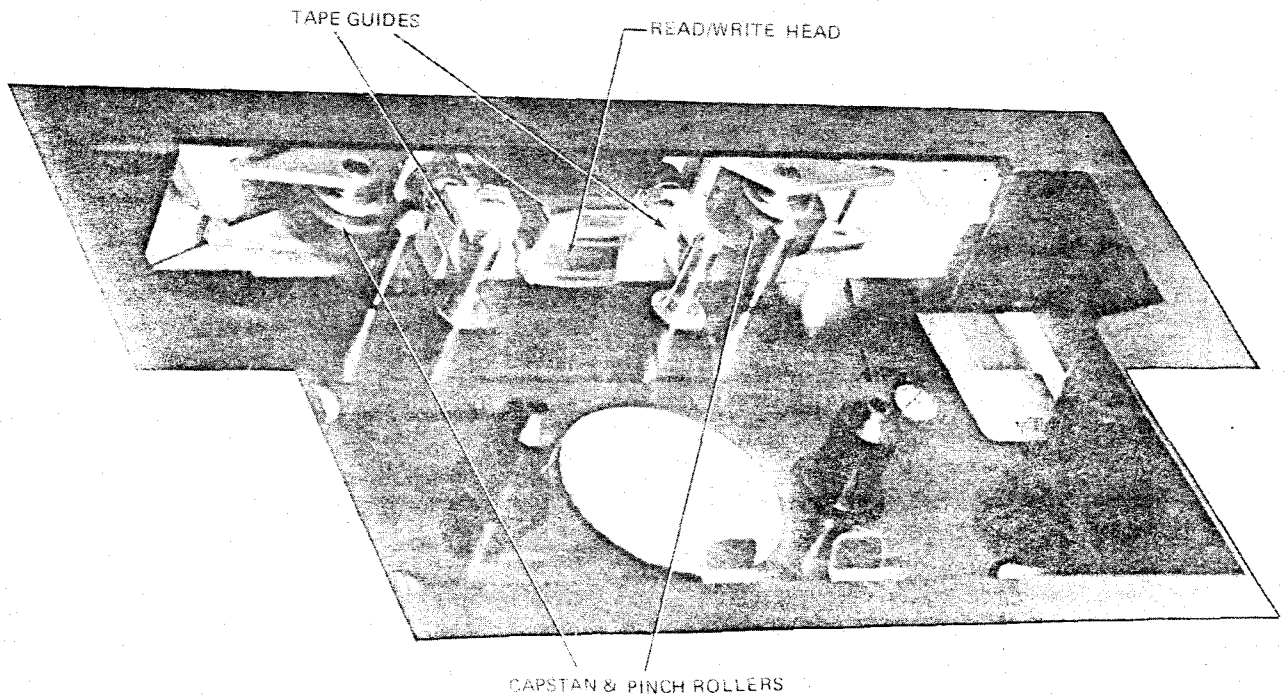

FIGURE 5-1.2. TAPE CASSETTE TRANSPORT CLEANING AREAS
- c. Use clean Q-tip® type cotton swabs saturated with denatured alcohol (available from Texas Instruments in pint containers, Part No. 230007) to clean the pinch rollers, capstans, tape guides, and read/write heads shown in Figure 5-1.2.
- (1) Swab the pinch rollers across the rolling surface a section at a time; then rotate the roller with the swab and clean another section. Discard the Q-tip when it becomes discolored and resume cleaning with a new Q-tip. Continue swabbing both pinch rollers in both transports until no discoloration appears on the Q-tip.
- (2) Clean the tape guides by inserting the alcohol-saturated swab into each side of the tape guides. Change the Q-tips until no discoloration appears.
- (3) Swab the read/write heads using a back-and-forth motion across the heads. Change the Q-tips until no discoloration appears.
- (4) Lower the terminal cover and swab the capstans (located directly below the pinch rollers). Clean the length of the capstans, changing Q-tips until no discoloration appears.